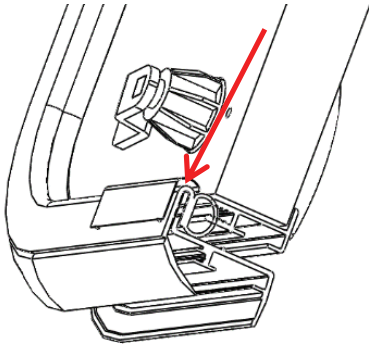

Figure 7
4. INSTALLATION OF THE CLIPS: (FIGURE 7)